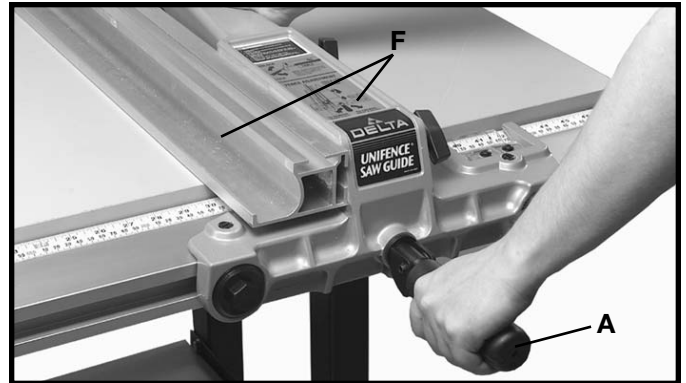

Fig. 77
6. To remove the fence and fence body assembly (F) Fig. 77, from the guide rail, lift up on fence clamping lever (A) and turn lever (A) to the left indent position. The fence assembly (F) can then be pulled straight off the guide rail and removed.